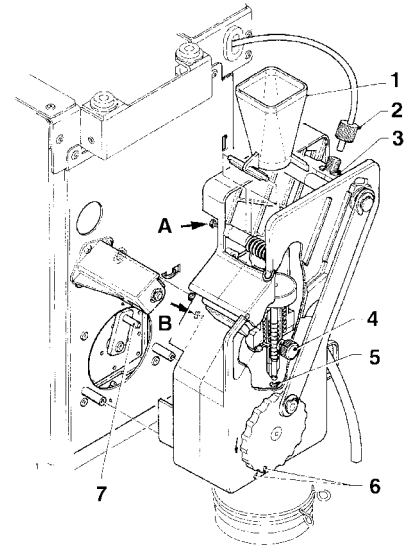

Fig. 17
- remove the boiler teflon hose connection from the upper piston, paying attention not to lose the seal (see Fig. 17);
- Loosen screws A and B enough to release the coffee funnel (see Fig. 17);